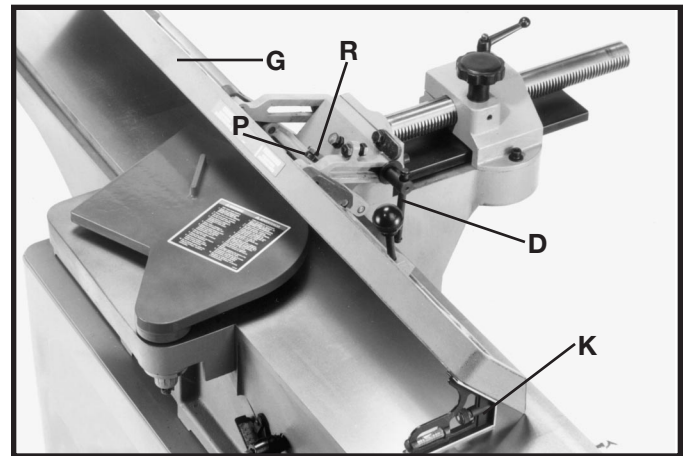

Fig. 55
6. Tilt the fence (G) Fig. 55, inward as far as it will go and tighten locking handle (D). Using a square (K) on the table and against the fence, check if the fence is 45 degrees inward to the table.
7. If an adjustment is necessary, loosen locknut (P) Fig. 55. Rotate screw (R) until you are certain the fence is 45 degrees inward to the table. Tighten locknut (P) and locking handle (D).